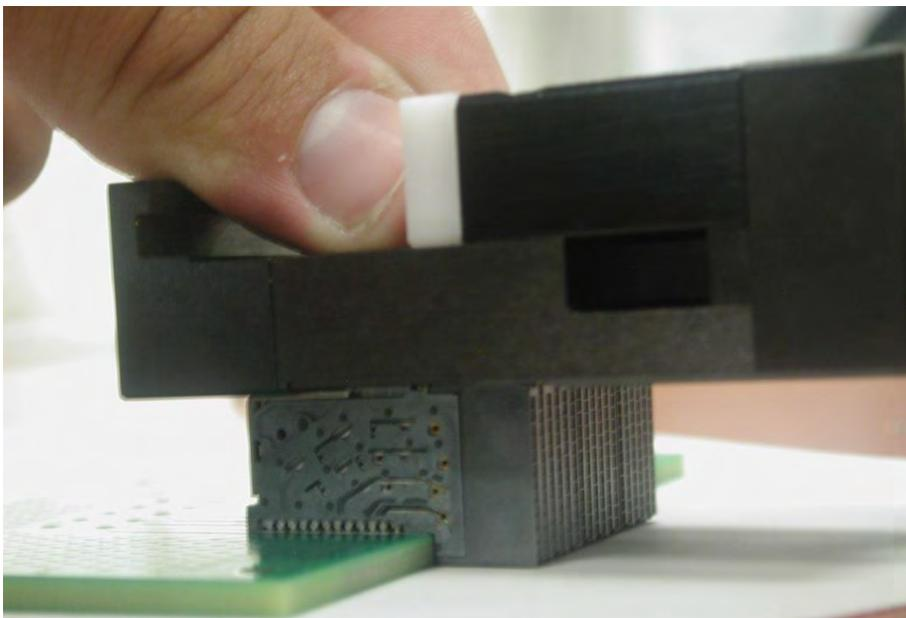
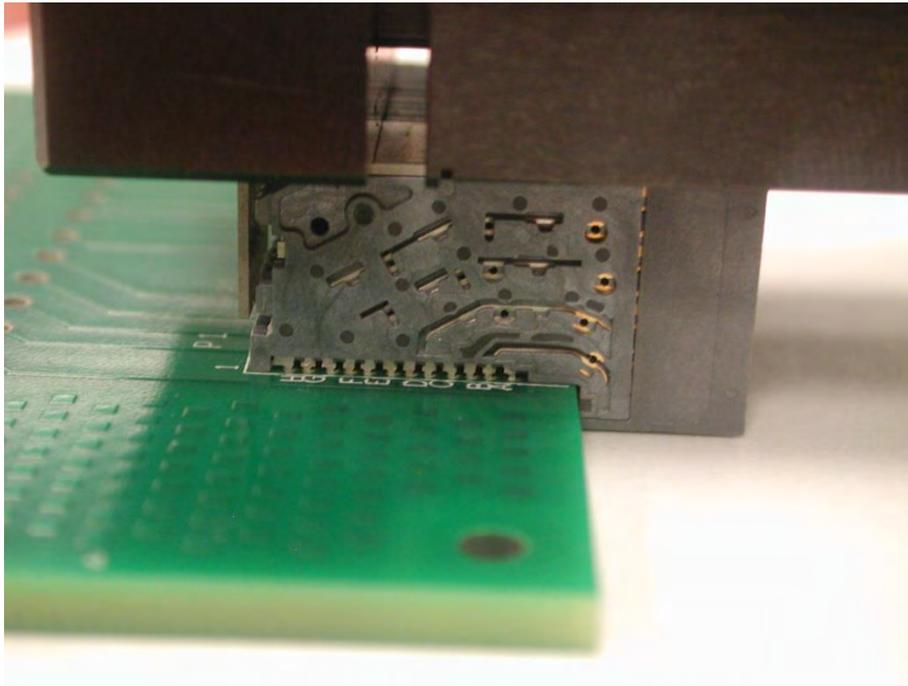

Figure 2: Stiffener Removal Tool is in Place
Figure 3: Loosing of the stiffener from the daughtercard wafers
- Step 1.** Remove the stiffener from the connector using installation/removal tool. Using the side of the tool with the Delrin insert facing up (See Figure 2), place the pins protruding downward into the pilot holes at one of the stiffener and turn the knob counterclockwise until the stiffener starts to move. Repeat this process (See Figure 3) moving the tool gradually from one end of the connector to the other until the stiffener becomes loose and can be easily removed from the assembly.